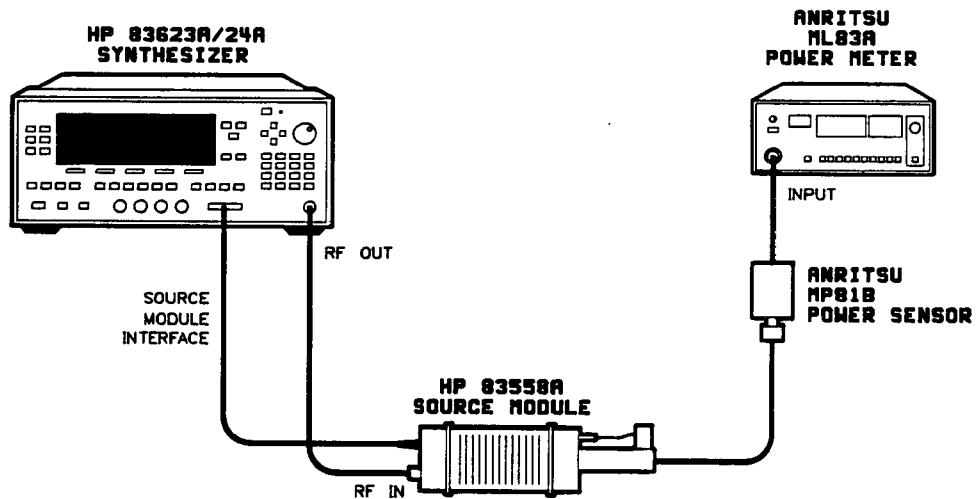

Figure 2e-4. System Configuration
1. Connect the equipment as shown in Figure 2e-4. Do not connect the power sensor to the HP 83558A output.